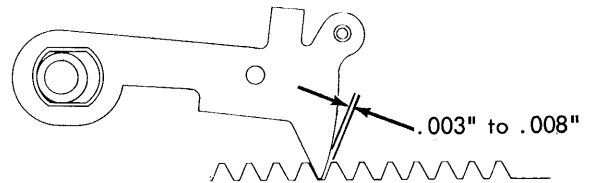
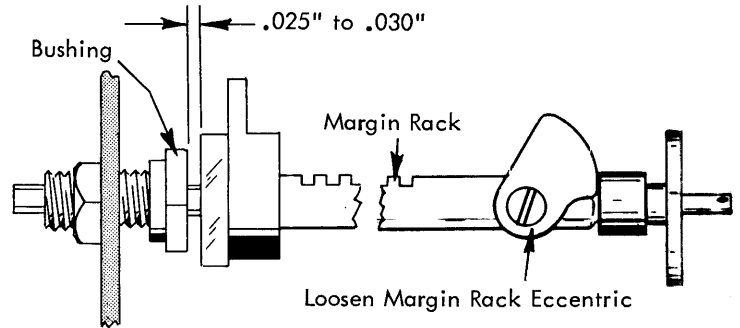

FIGURE 210. Escapement Pawl Check
FIGURE 211. Overbank Adjustment (Early)
- a. Early Style - With the carrier held fully to the left against the margin stop, a clearance of .003" to .008" should exist between the working surfaces of the escapement pawl and the escapement rack tooth (Fig. 210). Adjust the left hand margin rack bushing to obtain this condition (Fig. 211).